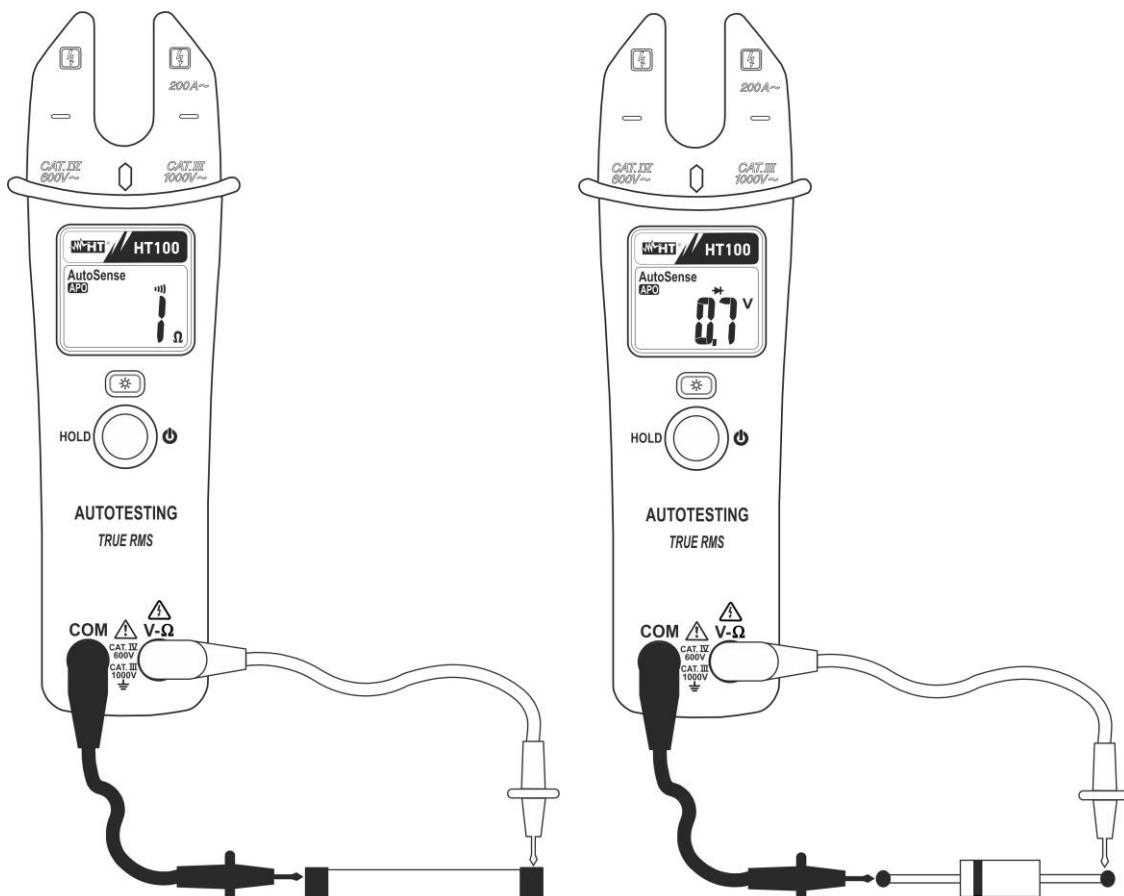

Fig. 6: Taking continuity test and diode test
1. Insert the red test lead plug into **V-Ω** jack and the black test lead plug into **COM** jack and perform continuity test on the object on test (see Fig. 6 – left side). The “ $\cdot\bullet\bullet$ ” is shown at display. Buzzer emits sound if the measured resistance value is less about 25Ω
3. Connect the red test leads to the anode of diode on test and the black test lead on the cathode ones (see Fig. 6 – right side). The “ \rightarrow ” symbol is shown at display. The correspondent threshold voltage of P-N junction is showed on display